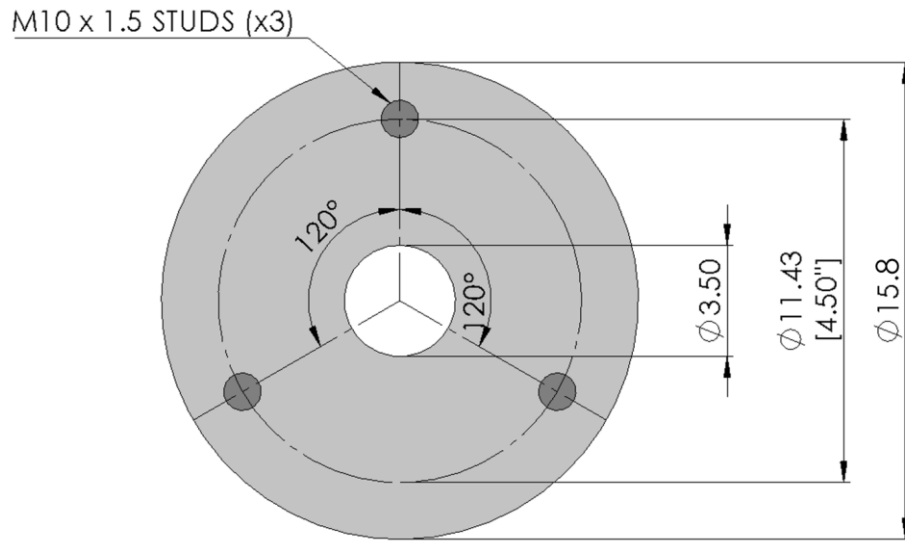

Figure 3. Base flange dimensions for wind turbine attachment to the tunnel and cable pass-through (dimensions in centimeters).
- It is suggested that the electrical cable between the wind turbine and electrical components outside the tunnel (e.g., point of common coupling [PCC], load) be unbroken (without connectors) inside the tunnel. Any connections on this cable should be outside the tunnel, for example, at the turbine controller or load box, or at the PCC. Cables must pass through the hole in the center of the mounting flange, as shown in Figure 3, on their way to the PCC and the team-supplied electrical enclosures.
- The tunnel used in each region will have a base flange with mounting studs (see Figure 3).
- The turbine base flange must be constructed of material no thicker than 16.1 mm. It should be designed and constructed with adequate tolerances to smoothly fit over three studs, where it will be secured to the tunnel base flange/float with wingnuts. Figure 3 shows the bolt